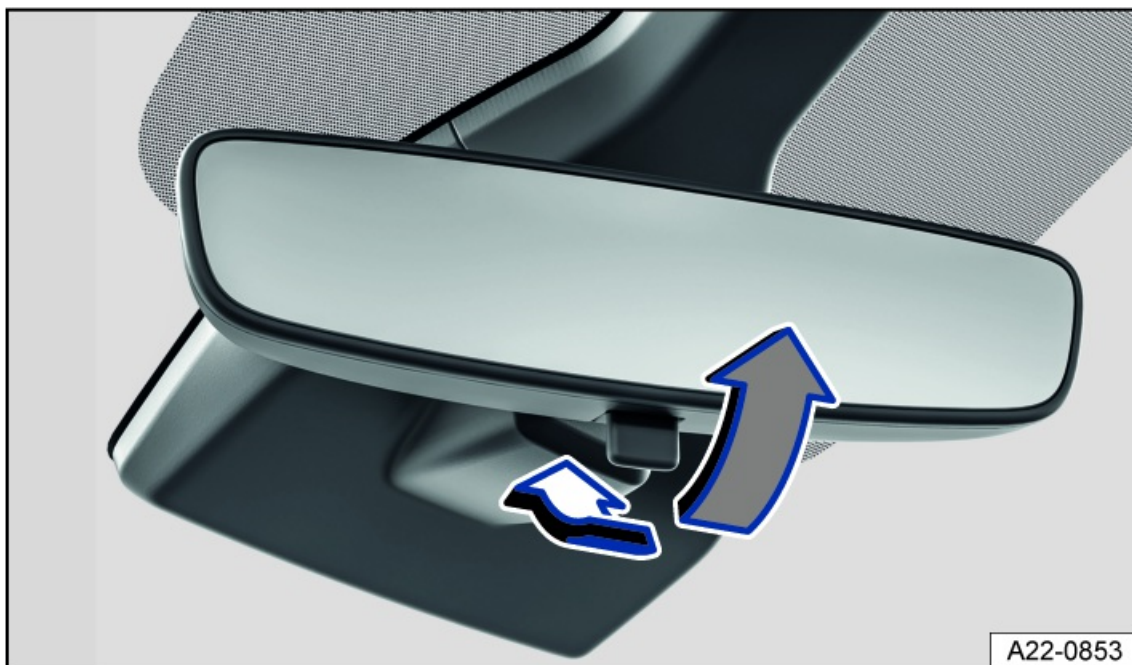

Fig. 108 On the windshield: manual dimming interior rearview mirror.
- To dim, pull the lever back fig. 108.